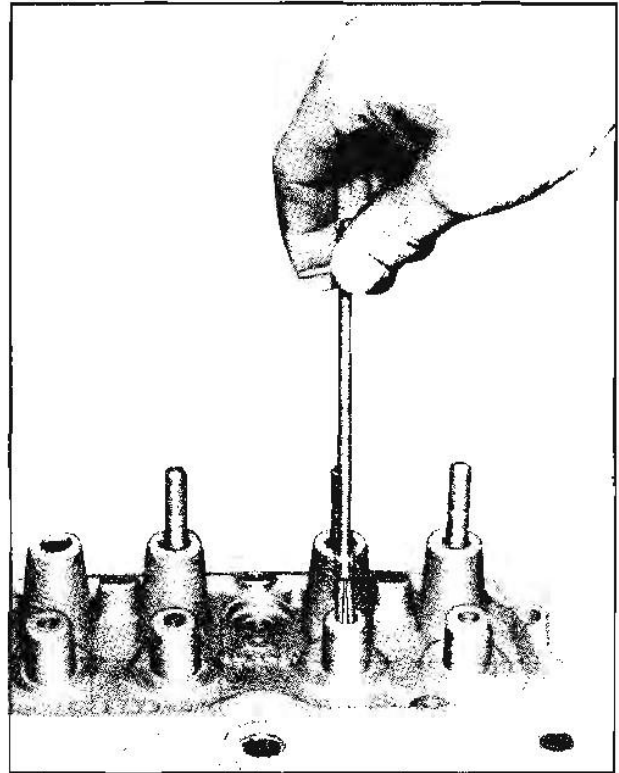

Fig. 6-34 Cleaning Valve Guide Bore
2. Thoroughly clean the valve guides using tool I-8101 (Fig. 6-34).